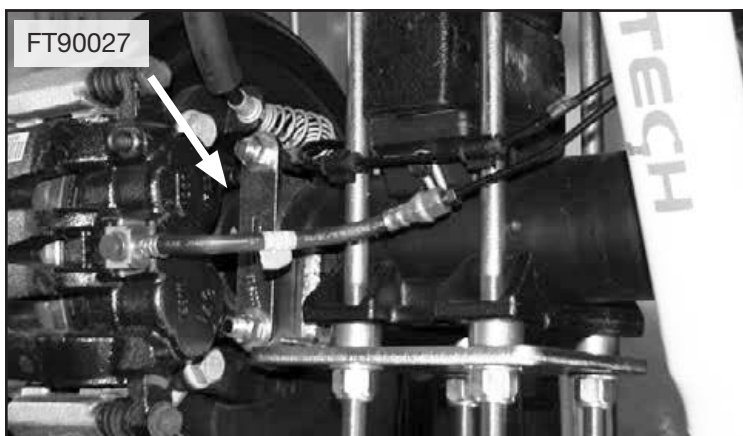

FIGURE 5 - STEP 5
5. Using two 1/2-13 x 6" bolts, washers and nuts, install the FT90027 upper clamp bracket on the backside of the axle housing.. Torque the u-bolt nuts to 254 ft-lbs and upper 1/2" hardware to 90 ft-lbs. **SEE FIGURE 5**